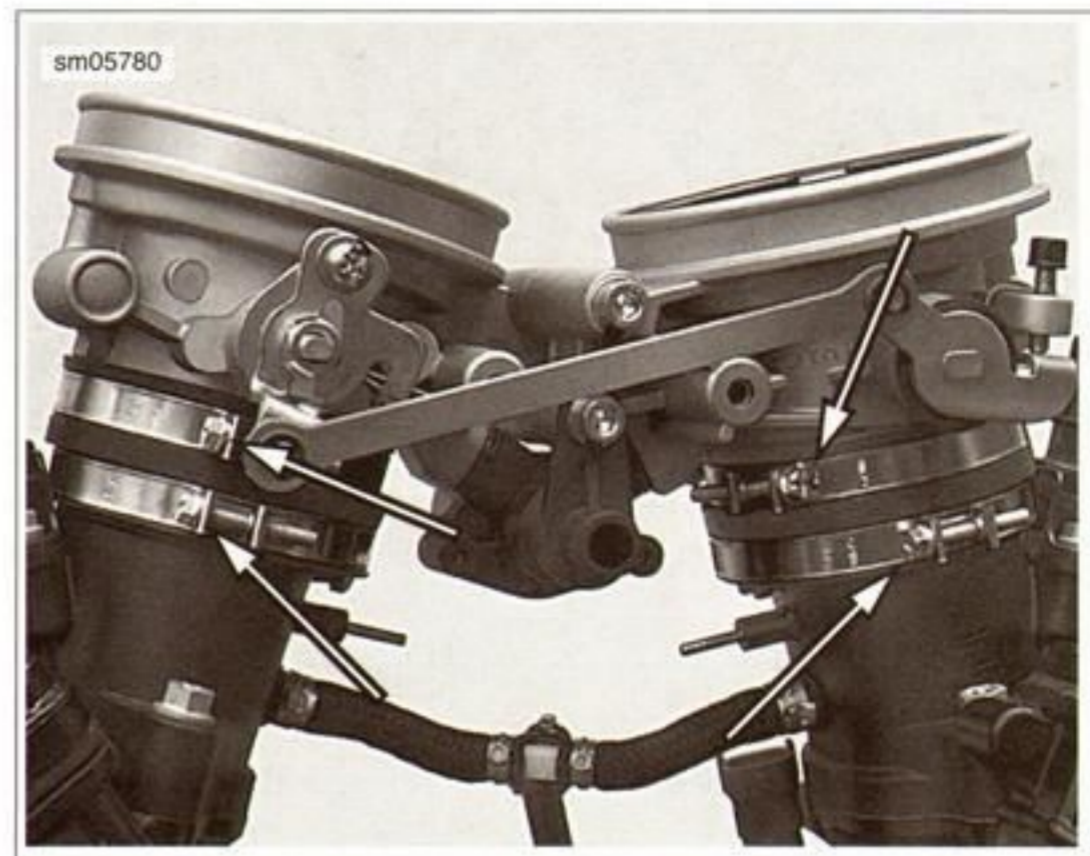

Figure 4-41. Intake Neck Clamp Orientation
2. See Figure 4-41. To avoid interference with the throttle controls, orient the clamp screws and tighten the clamps to 2 Nm (18 in-lbs).